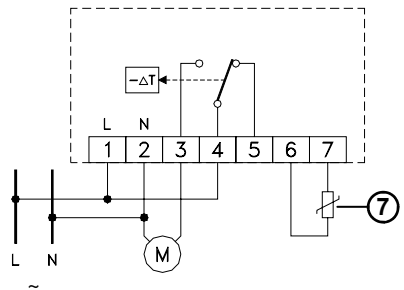
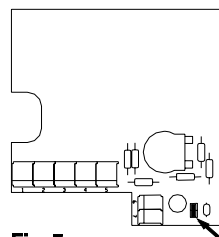

Fig. 5
Fig. 7
5. Make the wiring connections to the backplate as shown in fig. 5 including any remote sensor connections to terminals 6 and 7.
When using the remote sensor option with the thermostat, connect the sensor as shown in Fig. 5 (7) and remove the jumper on the bottom right hand corner of the backplate - see fig. 7. Cased remote sensors must be connected in cable of at least 1.5mm² cross sectional area and not greater than 25m in length. Do not put mains cables and sensor cables next to one another.